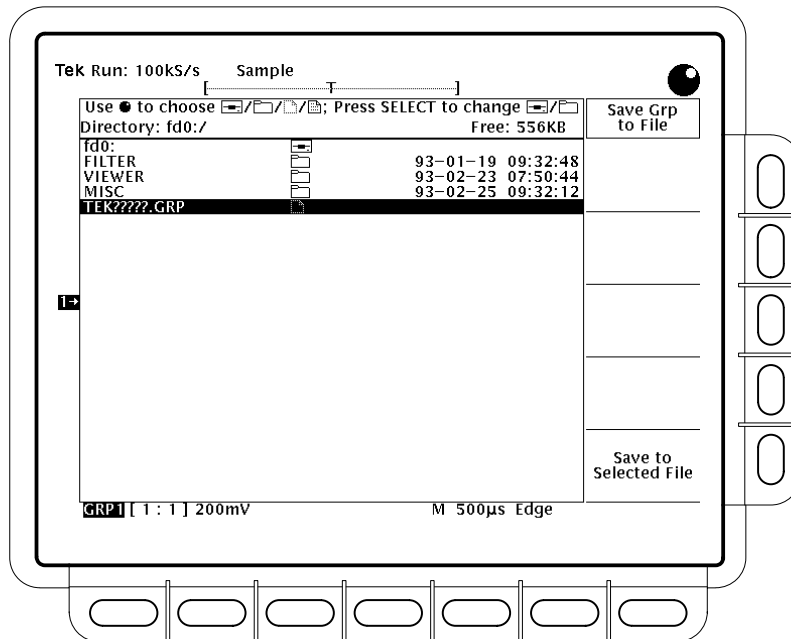

Figure 3-53: Save Group to File Menu
3. Turn the general purpose knob to place the scroll bar over the file in which to store the group. (See Figure 3-53).